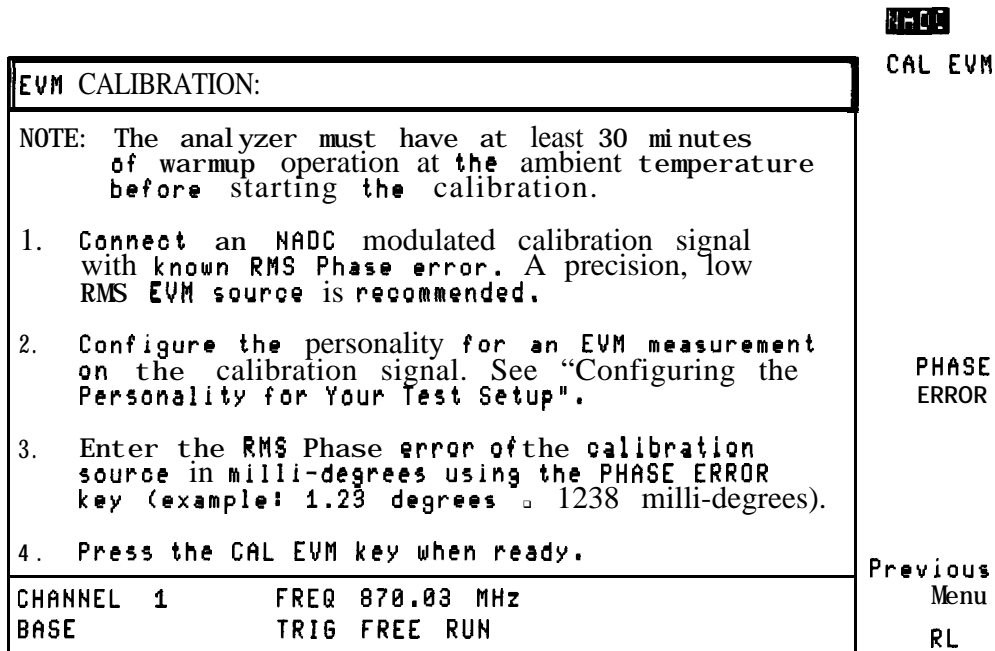

Figure 3-23. EVM Calibration Instructions
4. Press **Evm Cal** to access the EVM calibration menu. A screen containing instructions is also displayed. See Figure 3-23 for the EVM calibration instructions screen.